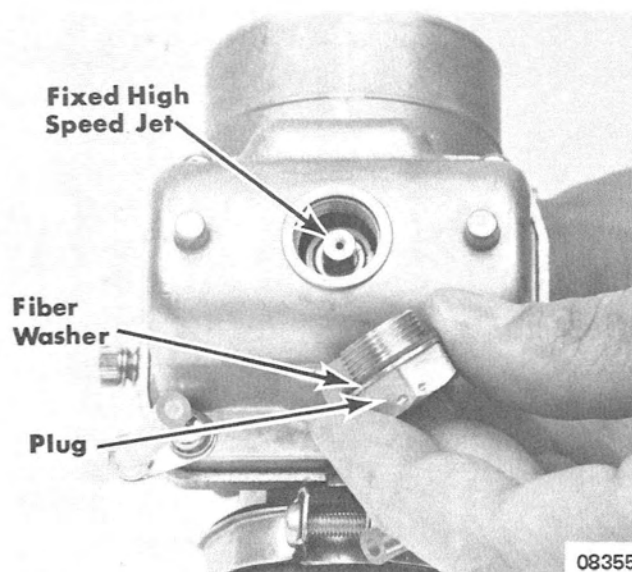

Figure 4. Carburetor Fixed High Speed Jet
- Each carburetor is equipped with a replaceable fixed high speed jet. Fixed high speed jet is located in carburetor float bowl and is visible when plug and fiber washer are removed from float bowl. (Figure 4) Each jet is stamped with a number which indicates maximum amount of fuel flow that it can meter; i.e., No. 270 (stamped on jet) indicates that 270cc of fuel can be metered thru that jet in one (1) minute.